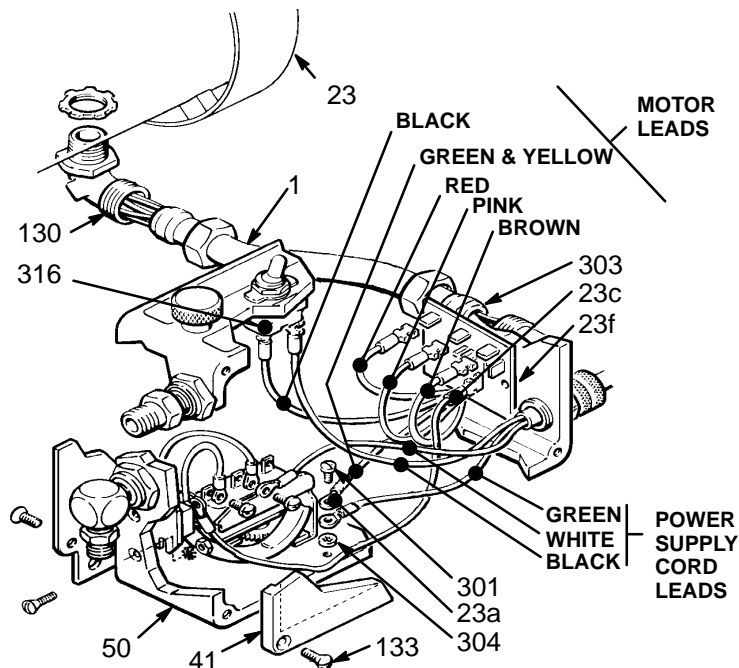

Fig 19
4. Remove the pressure control cover (41). Disconnect the motor leads. *See Fig 19.*
5. Unscrew the connector (130 and 303) nuts on both ends of the conduit (1).
6. Remove the screws (7), nuts (3) and lockwashers (4). Lift the motor while carefully guiding the wires through the connector (303) in the pressure control. Remove the conduit (1) from wires. *See Fig 19.*
7. Loosen the locknut and unscrew the connector (130) from the motor, being careful to avoid twisting the wires. *See Fig 19.*